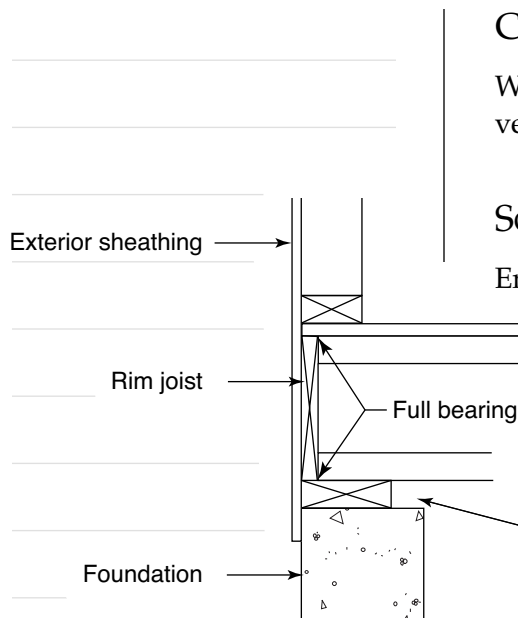

FIGURE 7
- ◆ Rim joists can be used to transfer vertical loads from above, through the floor system, and down to the support below. Rim boards have varying requirements, depending on the loading conditions. The manufacturer's design must be followed (see Figure 7).